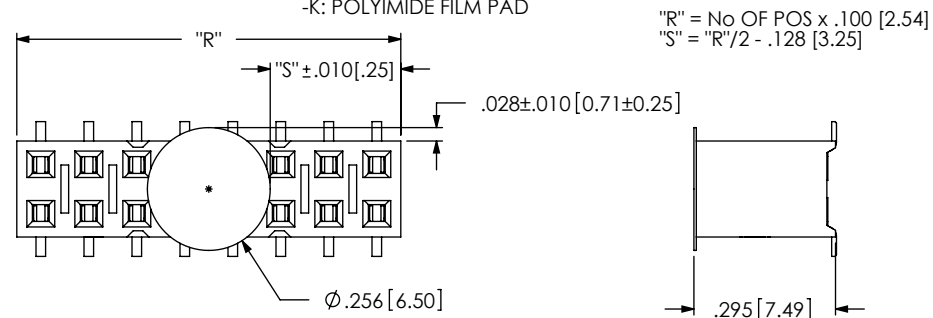

FIGURE 5
- M: METAL PICK & PLACE PAD (SEE NOTE 5) (USE LMP-02, SEE FIG 5, SHT 2)